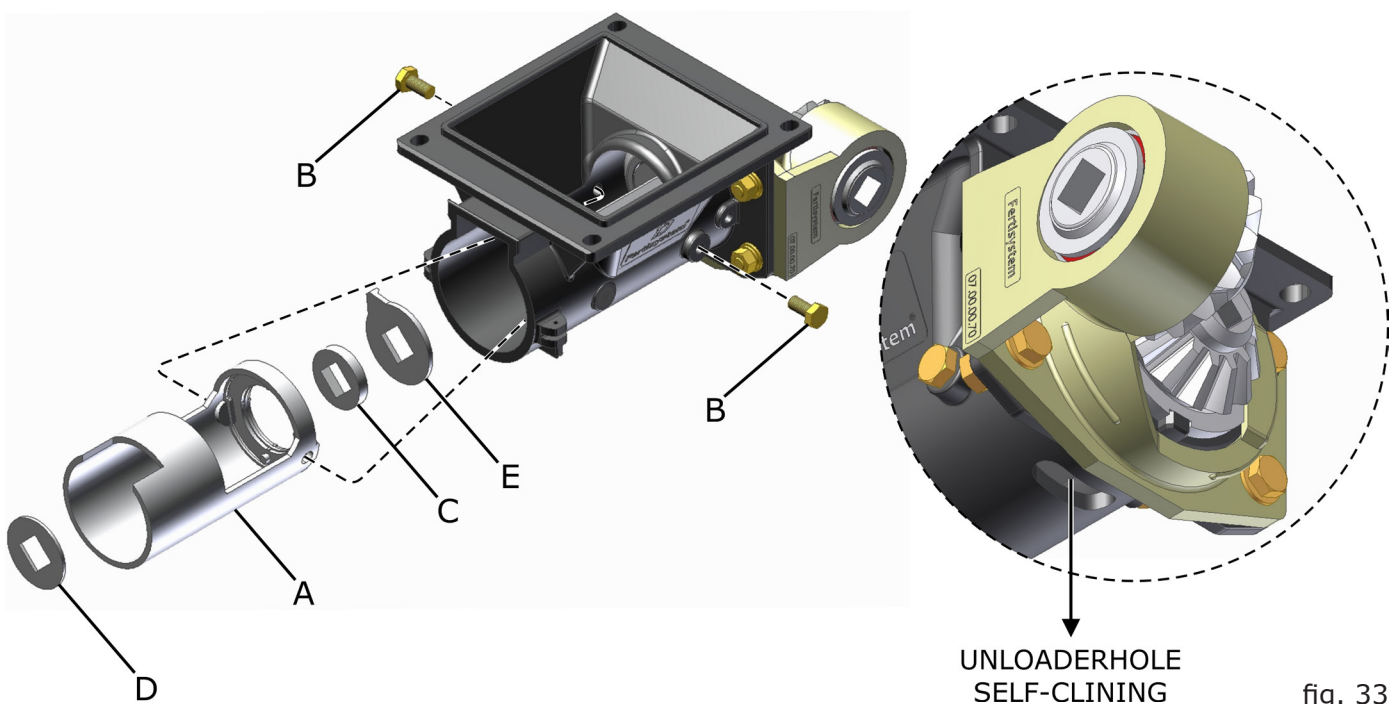

fig. 33
At the end of the harvest, check the coating (A) (fig. 33). If it has excessive wear, replace it by loosening and removing the bolts (B). Check the felt (C), washer (D), and cleaning washer (E) for wear. Excessive wear is verified when a large amount of fertilizer is discharged through the self-cleaning discharge orifice located on the underside of the body.